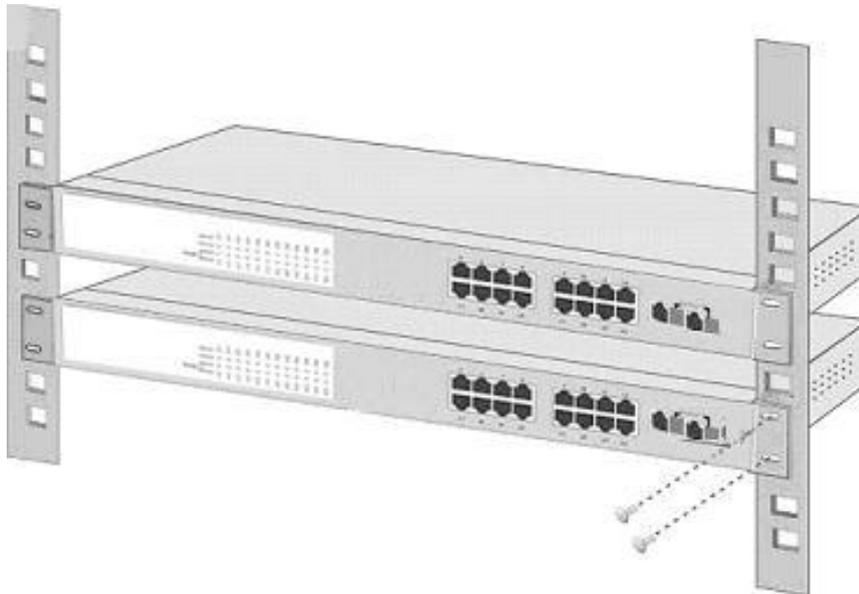

**Figure 2-4** Attaching the brackets to the Web Smart PoE Switch
- Step 2: Attach a rack-mount bracket to each side of the Web Smart PoE Switch with supplied screws attached to the package. Figure 2-4 shows how to attach brackets to one side of the Web Smart PoE Switch.